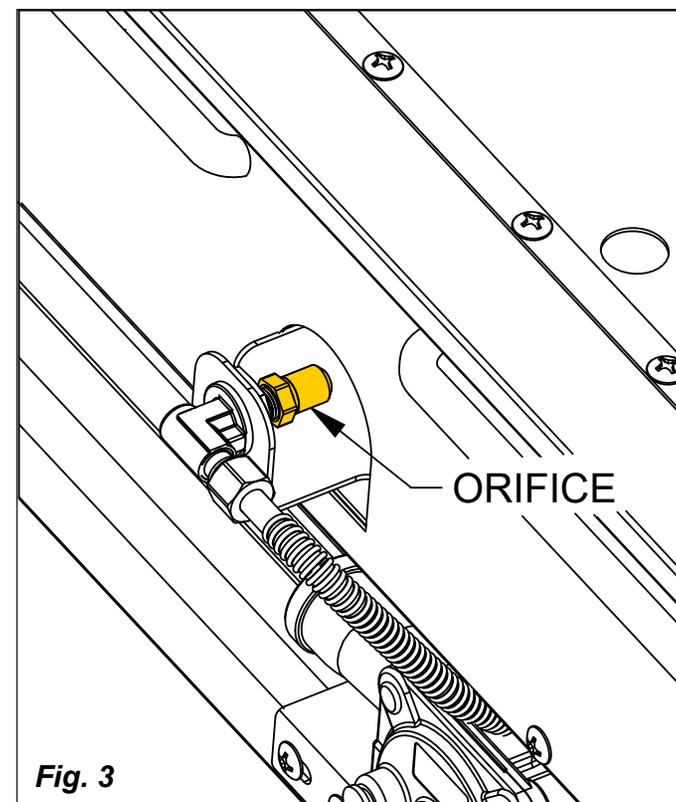

Fig. 3
4. The orifice is now accessible for removal. It should not be necessary to remove the elbow from the bracket or to disturb the flex hose. Make a note of how many threads you can see at the base of the orifice. Install the new orifice to roughly this same distance. Use a 1/2" wrench or locking pliers to prevent the brass elbow from rotating, and another 1/2" wrench to remove the orifice. There is a large locknut just below the orifice which must remain tight against the bracket. (Fig. 3)